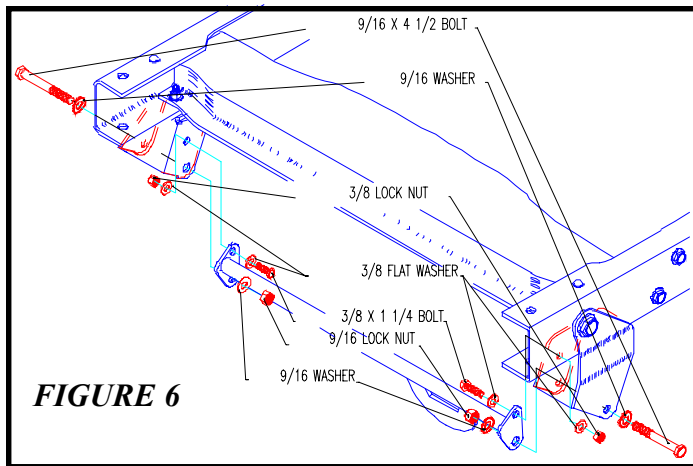

FIGURE 6
- Place cross brace (960612) so that it is between the two front mount brackets, the flap should be on the DRV side pointing downward as shown in *figure 6*.
- Retain the cross brace as shown in *figure 6*.
- Place (1) 9/16" X 3 1/2" coarse thd bolt, (2) 9/16" SAE flat washers, and (1) 9/16" coarse thd lock nut into the lowest hole in the bracket, the bolt will need to go through the entire bracket and the flange on the cross brace.
- Place (1) 3/8" X 1 1/4" coarse thd bolt, (2) 3/8" SAE flat washers, and (1) 3/8" coarse thd lock nut into the upper hole in the cross brace, the bolt will need to go through one side of the front mount bracket and the flange on the cross brace.